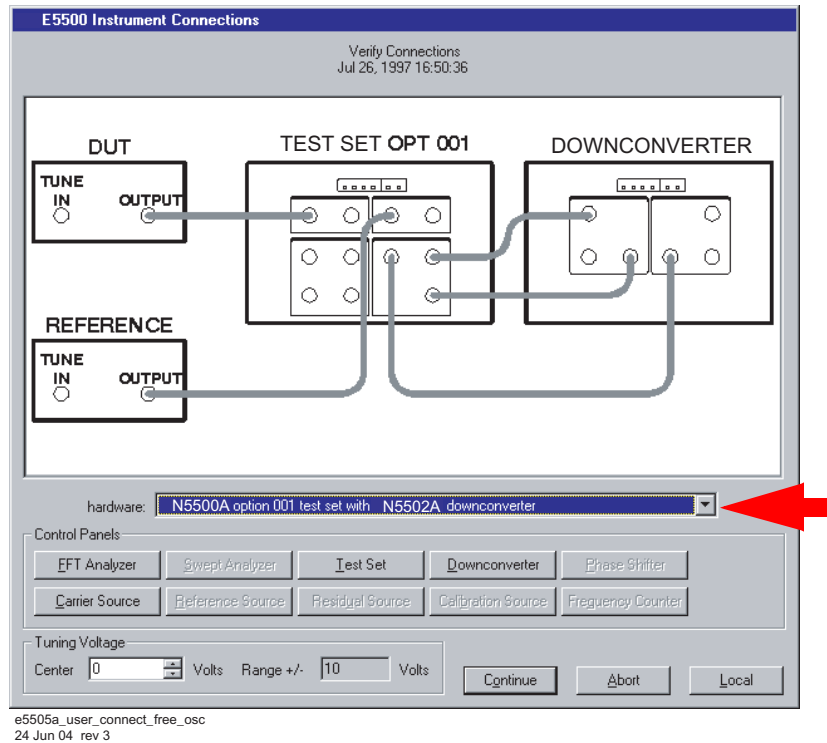

Figure 105 Connect diagram for the free-running RF oscillator measurement
- When the **Connect Diagram** dialog box appears, click on the hardware drop-down arrow and select your hardware configuration from the list. See Figure 105.